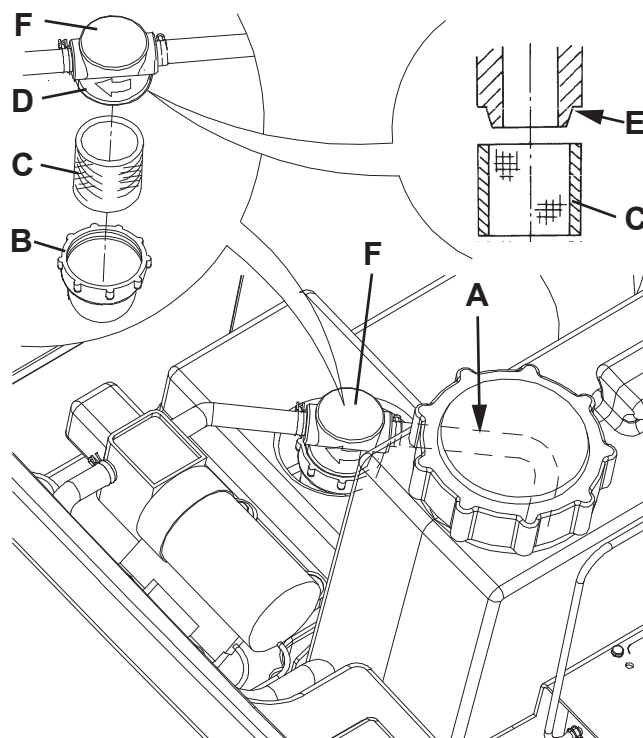

Figure 10
2. Turn the ignition key (80) to "0".
3. Open the cover (22) and check that the recovery tank (21) is empty, otherwise empty it with the drain hose (16).
4. Grasp the handle (41) and carefully lift the tank (40).
5. Slightly lift the hoses (A, Fig. 10), then, operating on the clean water filter assembly (F) unscrew the transparent cover (B) and remove the filter strainer (C). Clean and install them on the support (D).